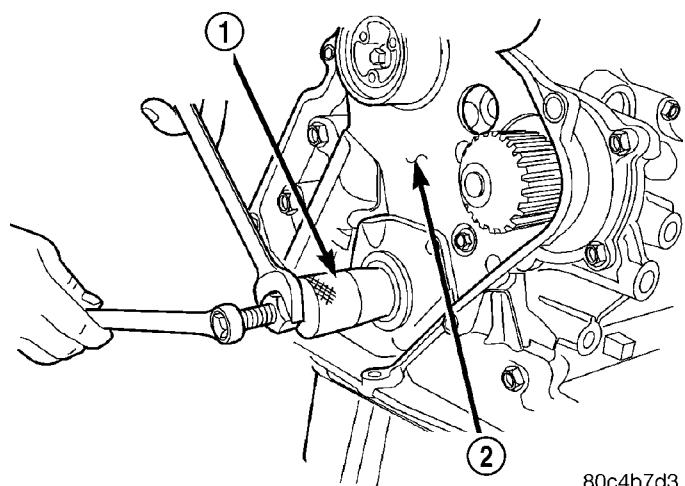

Fig. 53 Front Crankshaft Oil Seal - Removal
(4) Using Tool 6771 to remove front crankshaft oil seal (Fig. 53). Be careful not to damage the seal surface of cover.